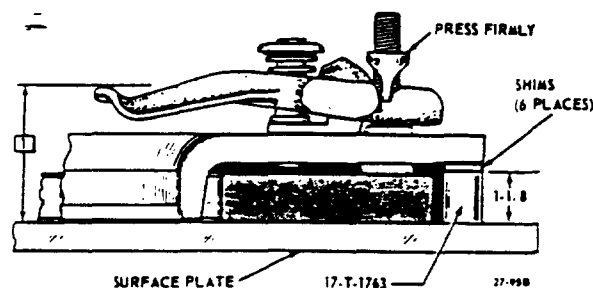

Figure 4-7. Wear Check
Place the pressure plate assembly and cover (without springs) into position as shown in Figure 4-7, making sure that shims of the correct thickness (.200) are inserted between cover and spacer (17-T-1763). Install each release lever and while pressing firmly on the fulcrum, measure distance (1) inboard end of lever is above cover.